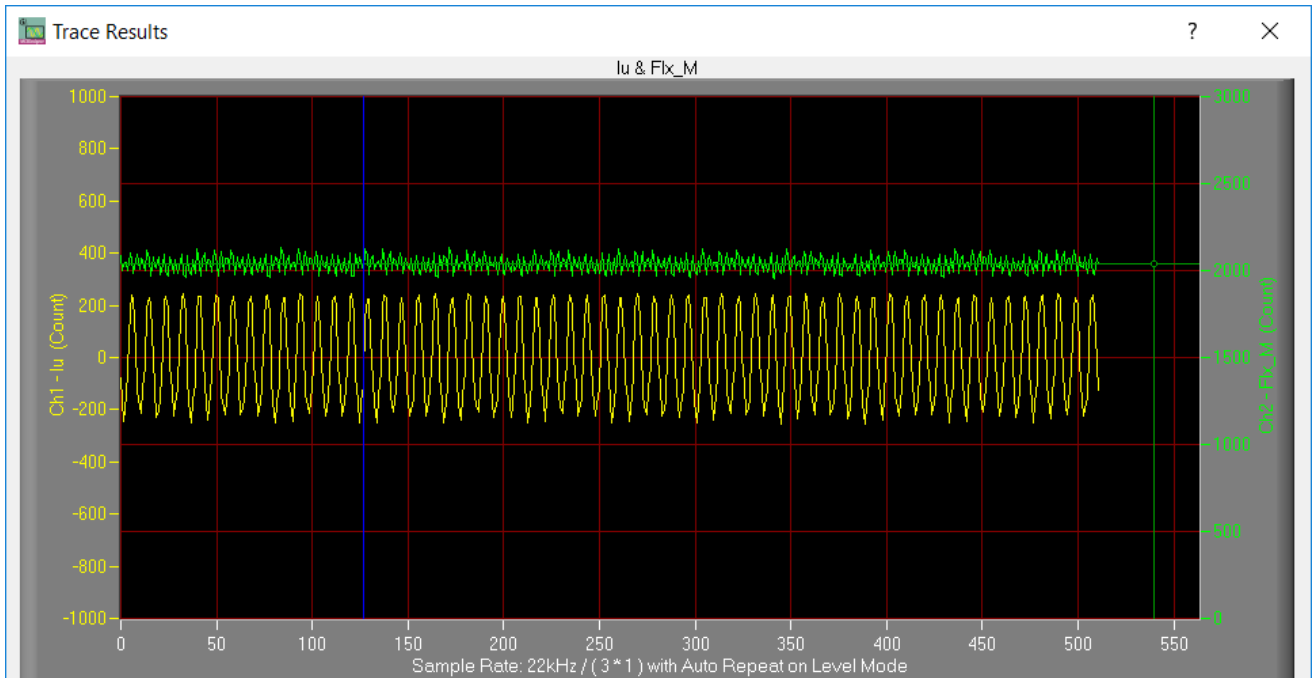

Figure 9 Trace waveform for Iu & Flx-M at 50% Speed
3. Set TargetSpeed to about 50% of maximum speed, start “Iu & Flx_M” trace with “Auto Repeat On Level,” see Figure 9. Flx_M is good within the range of 2000~2500 (rated value is 2048), and must be steady and DC-like.